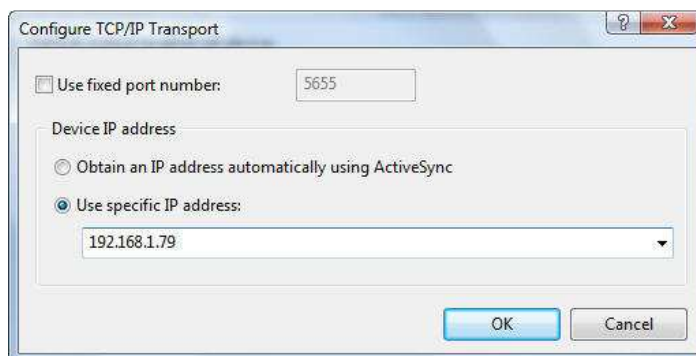

Fig. 42 - Configure TCP/IP Transport / Set device IP Address
- Select **Use specific IP address** and enter IP address for the SBC, as shown in Figure 42.